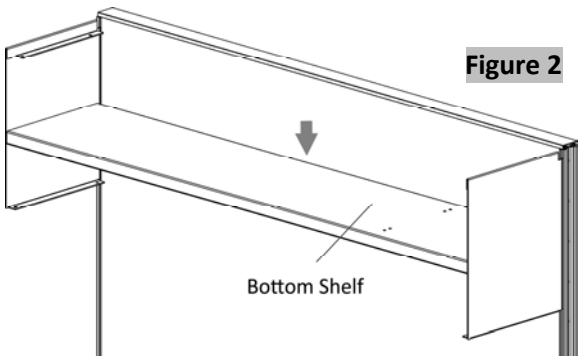

Figure 2
- Position the bottom shelf at desired position, (Figure 2).